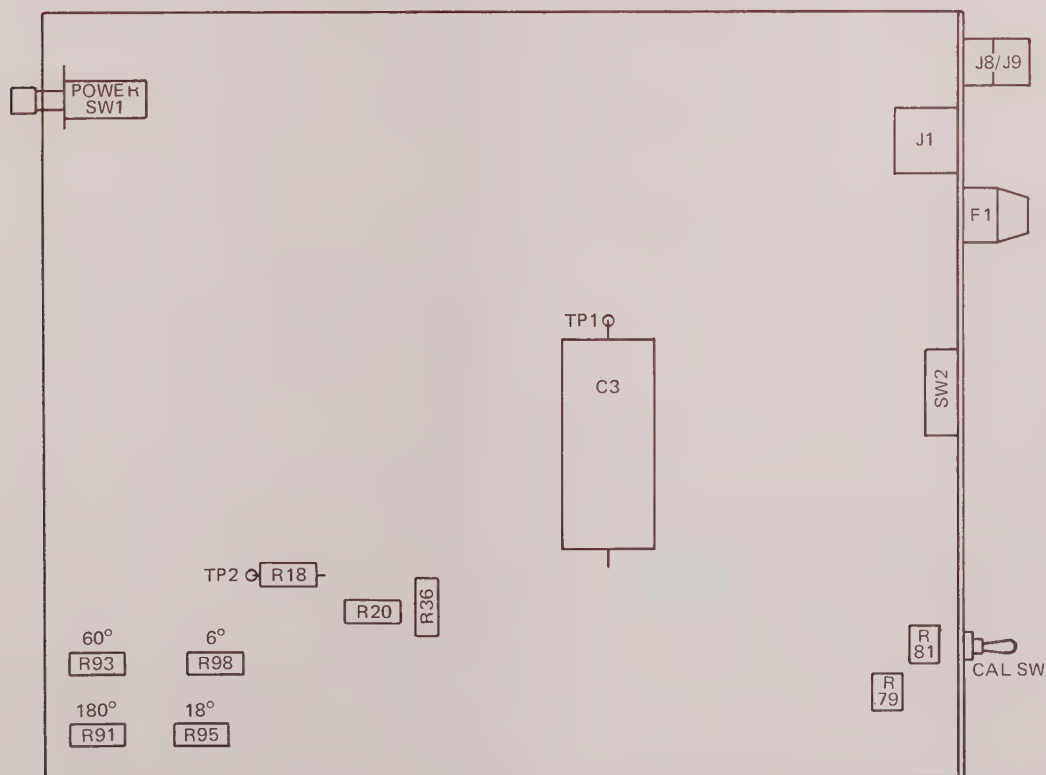

Figure 4-2. Logic Board Adjustment Locations.
6. Connect the voltmeter to the +3.6 V supply at test points TP1 and TP2 (Figure 4-2).
56. Select $\pm 180^\circ$ METER SENSITIVITY. Set phase source to 180° at 1 kHz, 1 V rms into both inputs, and adjust 180° meter ADJ R91 for full scale reading. See figure 4-2. Interchange inputs (exchange Channel A's input with Channel B's input), note error on meter, and adjust out $\frac{1}{2}$ of error with R91.